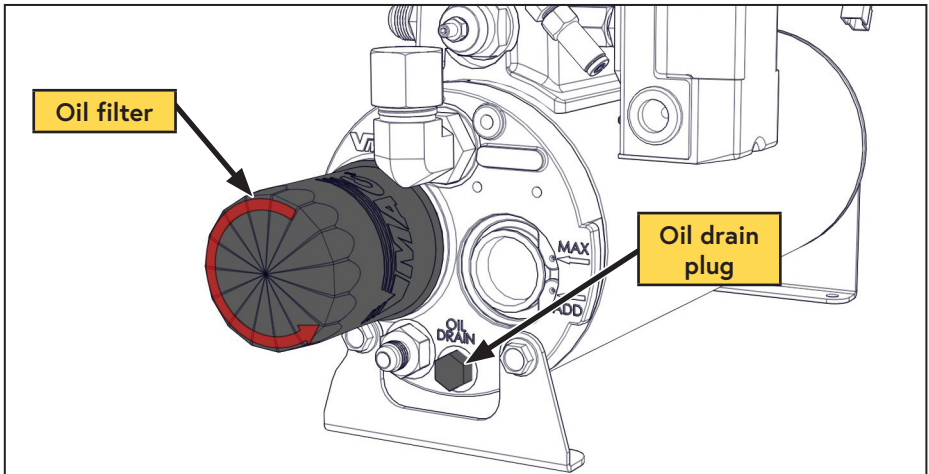

Figure 21 — Compressor oil filter
- Remove the oil drain plug and drain the oil into a container with a capacity of at least 4 L (1 USG) (Figure 21).
- Remove the oil filter (Figure 21).